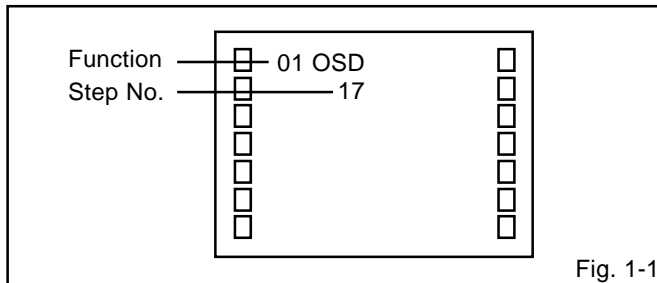

Fig. 1-1
2. Press the VOL. DOWN button on the set and the Channel button **(9)** on the remote control for more than 2 seconds to appear the adjustment mode on the screen as shown in **Fig. 1-1**.
5. Activate the adjustment mode display of **Fig. 1-1** and press the channel button **(02)** on the remote control to select "CUT OFF".
4. Activate the adjustment mode display of **Fig. 1-1** and press the channel button **(07)** on the remote control to select "R DRIVE".
3. Activate the adjustment mode display of **Fig. 1-1** and press the channel button **(04)** on the remote control to select "HPOSI".
3. Activate the adjustment mode display of **Fig. 1-1** and press the channel button **(06)** on the remote control to select "VPOSI".
3. Activate the adjustment mode display of **Fig. 1-1** and press the channel button **(05)** on the remote control to select "VSIZE".
3. Activate the adjustment mode display of **Fig. 1-1** and press the channel button **(12)** on the remote control to select "BRTC".
8. Activate the adjustment mode display of **Fig. 1-1** and press the channel button **(23)** on the remote control to select "BRTCA".
11. Activate the adjustment mode display of **Fig. 1-1** and press the channel button **(34)** on the remote control to select "BRTCD".
14. Activate the adjustment mode display of **Fig. 1-1** and press the channel button **(45)** on the remote control to select "BRTCG".
1. Activate the adjustment mode display of **Fig. 1-1**.